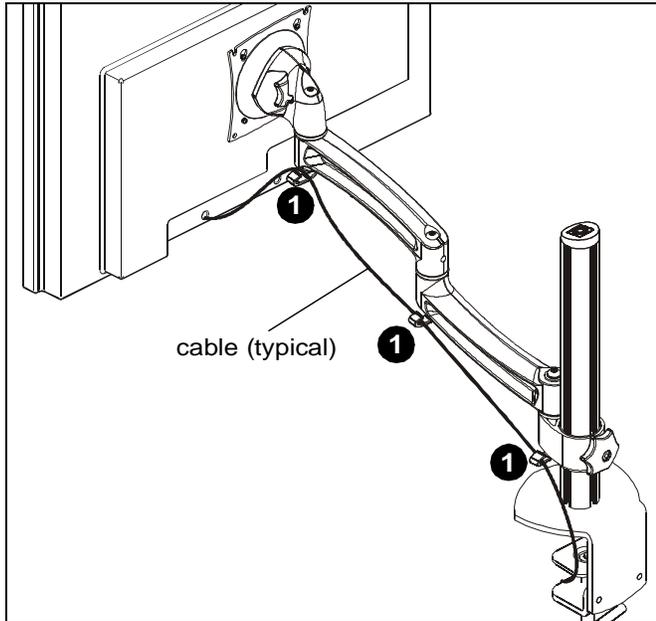

Figure 12
1. Route cables through cable management channels. (See Figure 12)